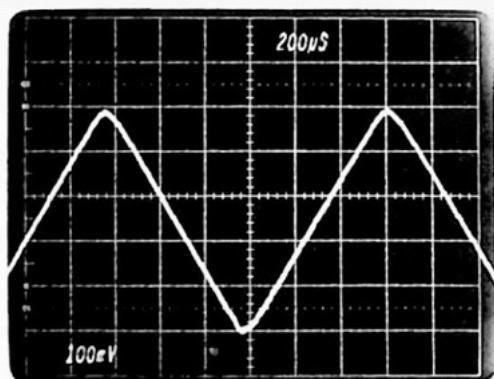

Figure 6-12
Step 20 — Observe the oscilloscope display. You should observe the triangular waveform pictured in Fig. 6-12.